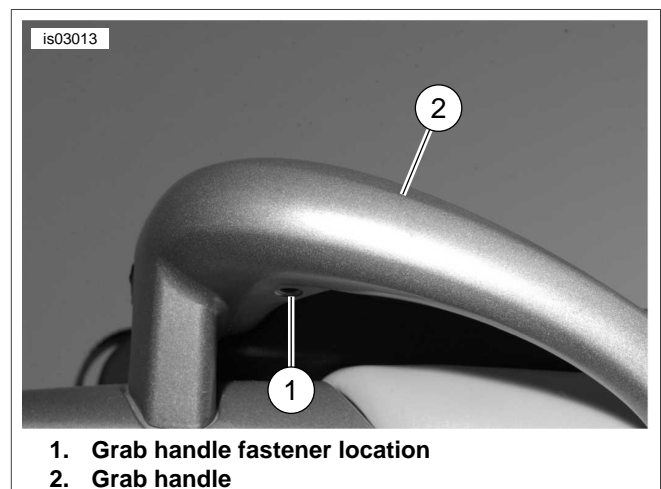
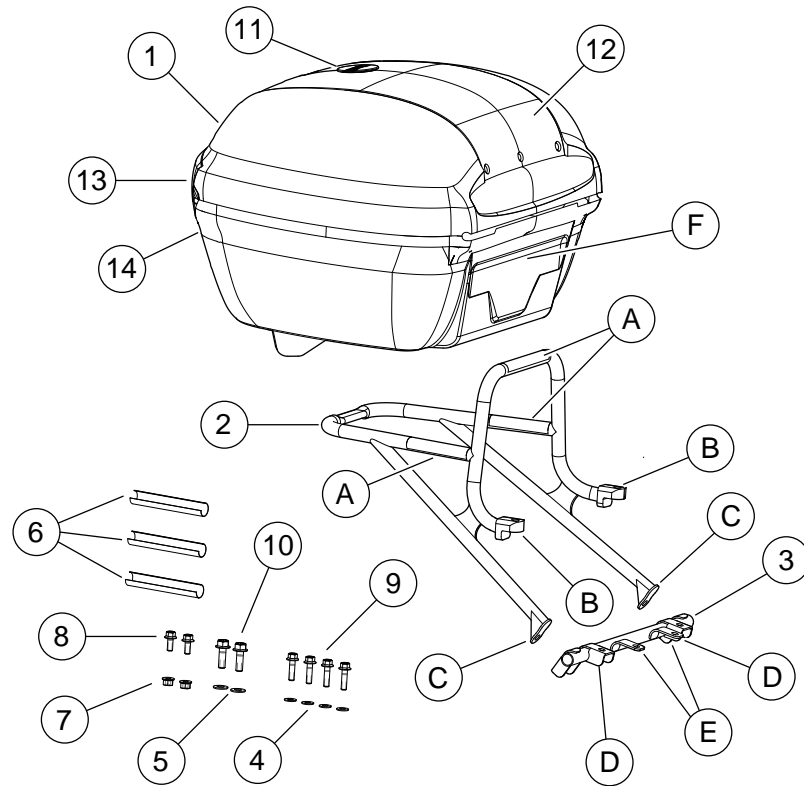

Figure 5. Grab Handle
Figure 7. Service Parts: Ulysses Topcase
3. See Figure 7. From the kit, install the cross bar mount (3) to the underside of the seat pan using four 1/4-20 x 1.0 inch fasteners (9) and four 9/16 inch O.D. Belleville washers (4) to the cross bar inner mounts (E) and outer mounts (D). Thread the fasteners in but do not tighten at this time.
4. From the kit, install the topcase mounting bracket (2) upper mounts (B) to the grab handle (Figure 5, item 2) by inserting two 5/16-18 x 1.0 inch hex head fasteners through 11/16 inch O.D. Belleville washers and mount points (B) into the forward lower grab handle (Figure 5, item 1). Thread the fasteners in but do not tighten at this time.
5. Install two 1/4-20 x 5/8 inch hex head fasteners (8) with 1/4 inch nuts (7) at the interface between the cross bar (3) and mount bar arms (C). Thread the bolt in but do not tighten at this time.
11. See Figure 7. Remove the backing from the three protective tape (6) pieces and install onto mounting bracket (2) areas as shown (A).